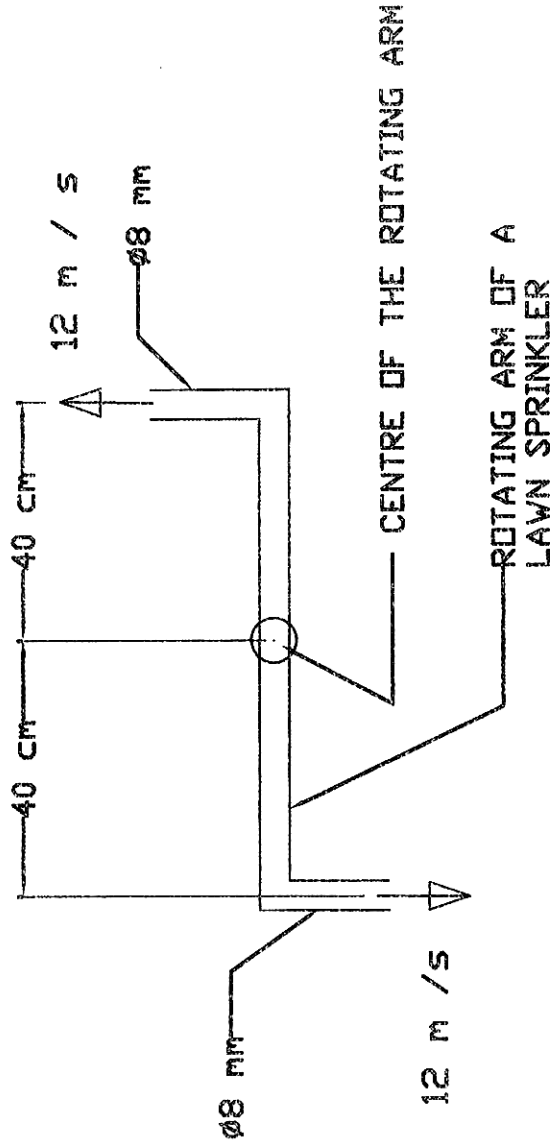

FIG 1
- (c) A lawn sprinkler as shown in fig 1 has two nozzles of diameters 8 mm each at the end of its rotating arm and the velocity of flow of water from each nozzle is 12 m/s . If the nozzles are at a distance of 40 cm from the centre of the rotating arm , determine